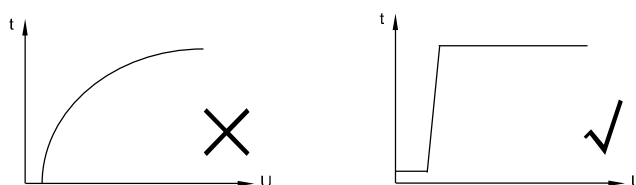

Figure 3
3.7 When measuring operation voltage of relay with dual coil economizer, such as and 600A,1000A type of HFE82V series and HFE85-300M, the slow ramp-up mode is not allowed. Please energize coil (see Figure 3) with quick start-up voltage (step power supply mode), otherwise the relay will not operate.